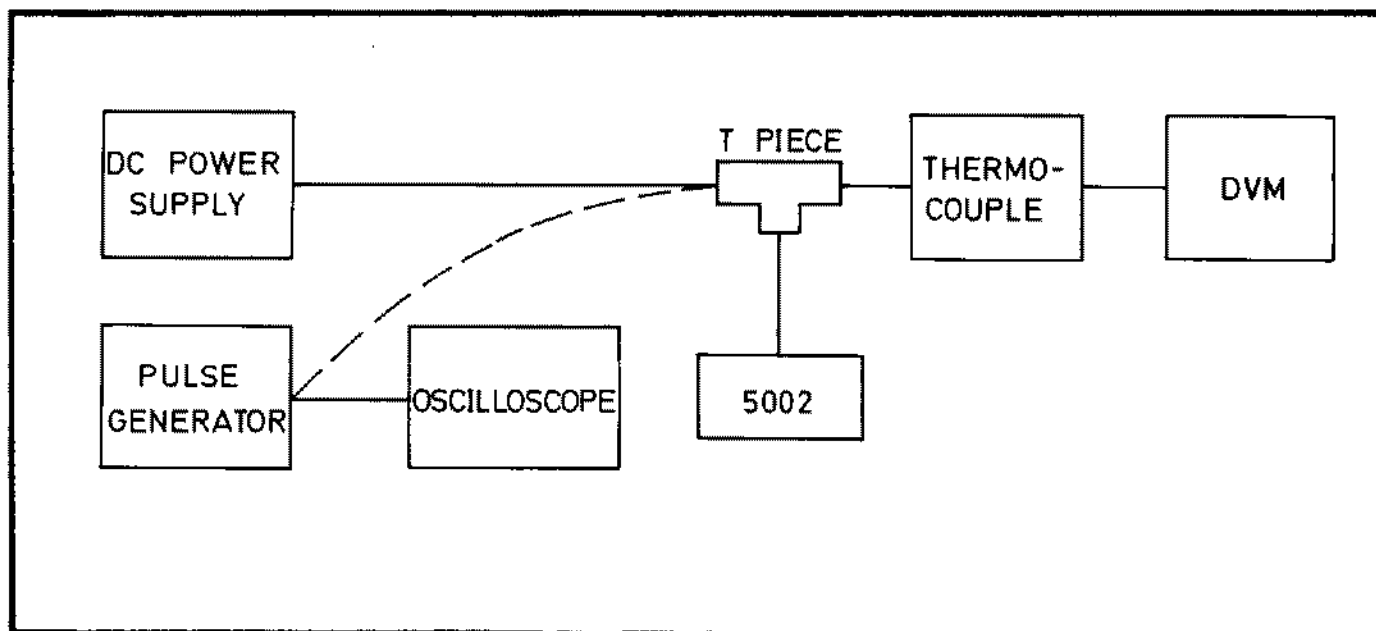

Fig. 6.8 RMS Detector Check, Pulse
- 6.5.14.4 Connect the test equipment as shown in Fig. 6.8.